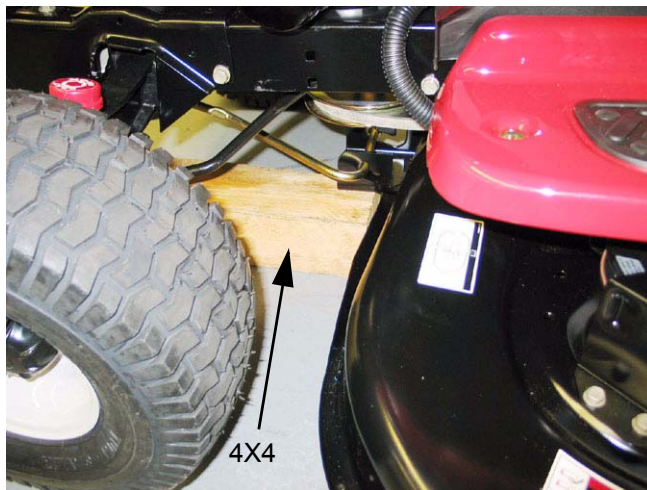

Figure 2.17
- 2.17. Deck installation tip: place a length of 4 X4 dimensional lumber (or a similar item) beneath the front mounting point to make it easier to connect the deck hanger brackets at the rear. See Figure 2.17.